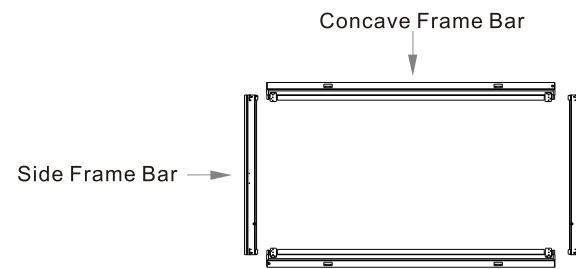

figure 1
1.Put the fixing lug into the slots of top and bottom bars, taking the following table as reference (figure 1).